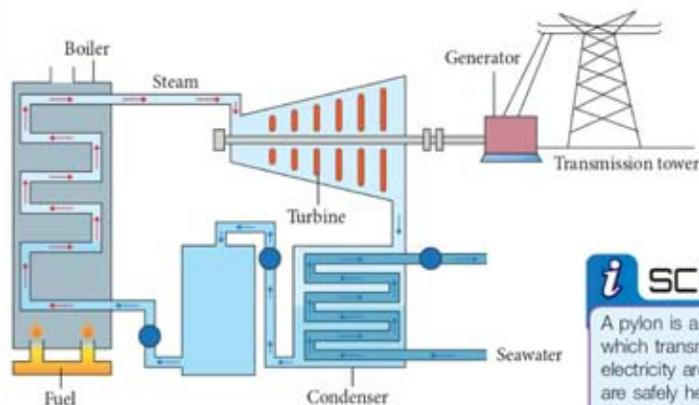

Figure 6.8 Thermal power station
Study Figures 6.8 to 6.13. Observe how electricity is generated at power stations using various sources of energy.
2. Gather information on how electricity is generated at power stations using various sources of energy as shown in Figures 6.8 to 6.13: